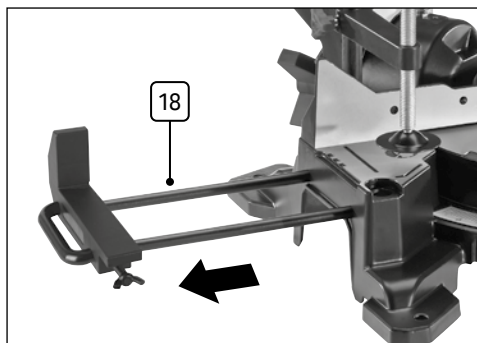

Fig. 28
7.8 Extending Workpiece Support Wings (Stock No.90170) – Fig.28